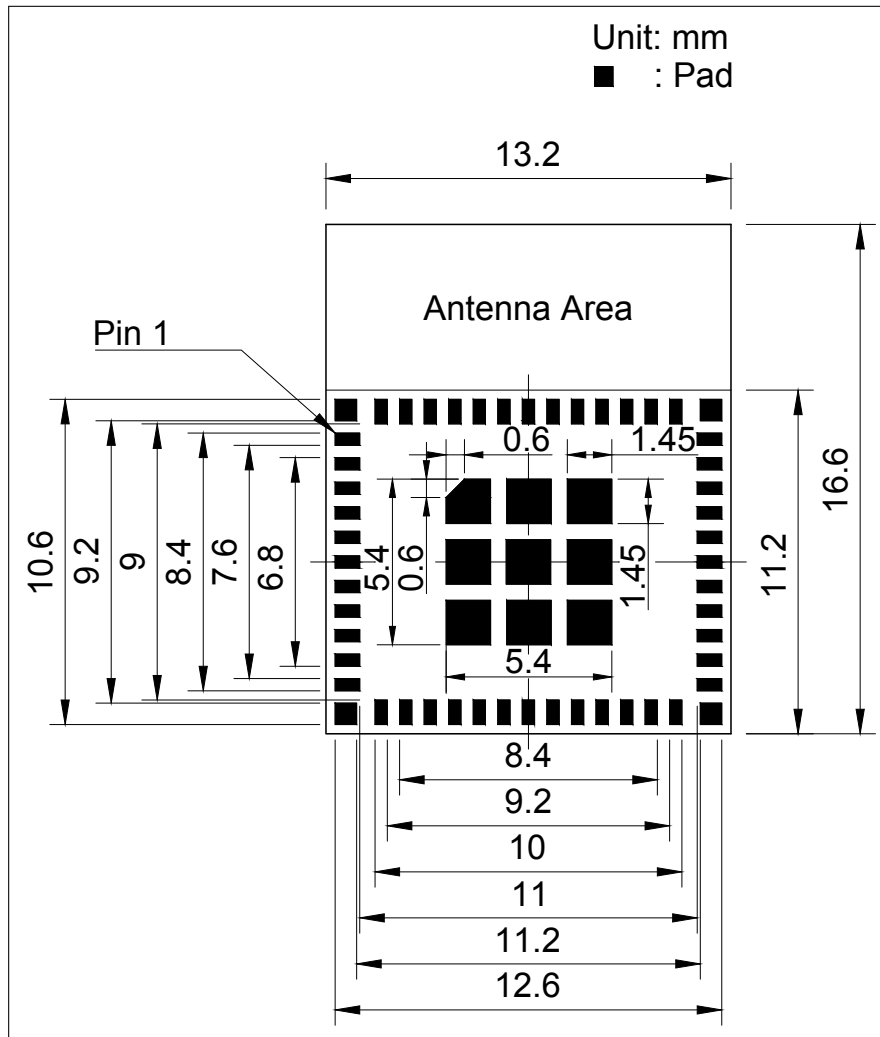
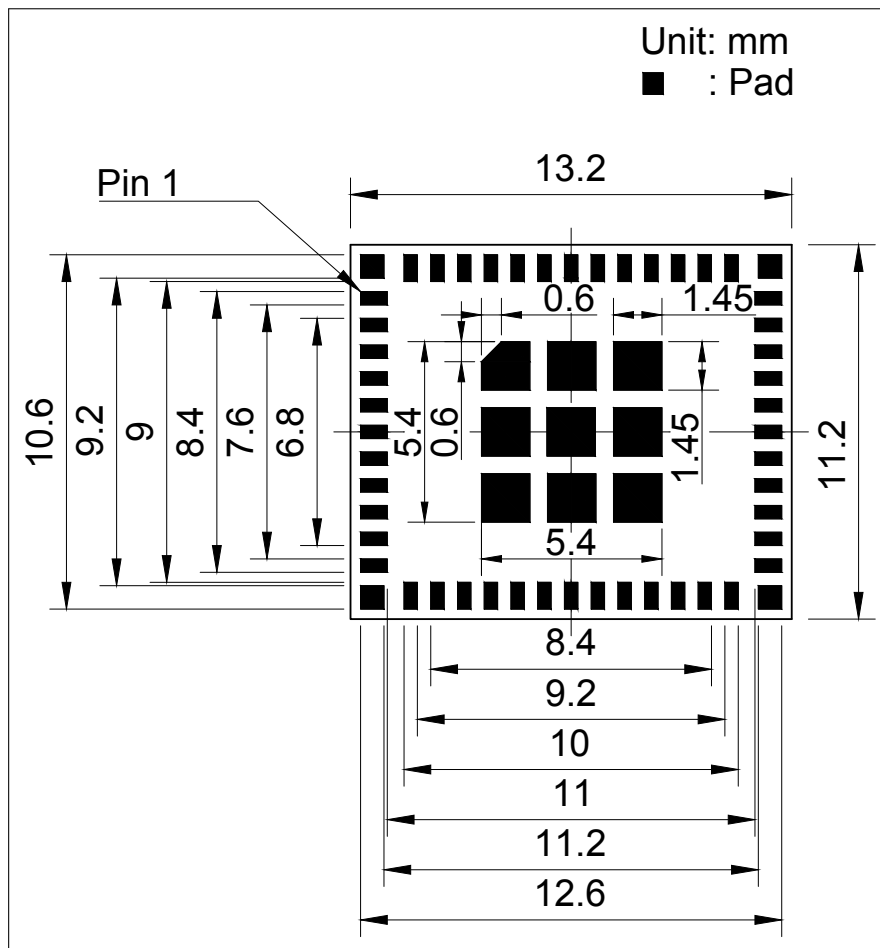

Figure 11: ESP32-PICO-MINI-02 Recommended PCB Land Pattern
Figure 12: ESP32-PICO-MINI-02U Recommended PCB Land Pattern
- Figures for recommended PCB land patterns with all the dimensions needed for PCB design. See Figure 11 *ESP32-PICO-MINI-02 Recommended PCB Land Pattern* and Figure 12 *ESP32-PICO-MINI-02U Recommended PCB Land Pattern*.
- Source files of recommended PCB land patterns to measure dimensions not covered in Figure 11 and Figure 12. You can view the source files for ESP32-PICO-MINI-02 and ESP32-PICO-MINI-02U with Autodesk Viewer.